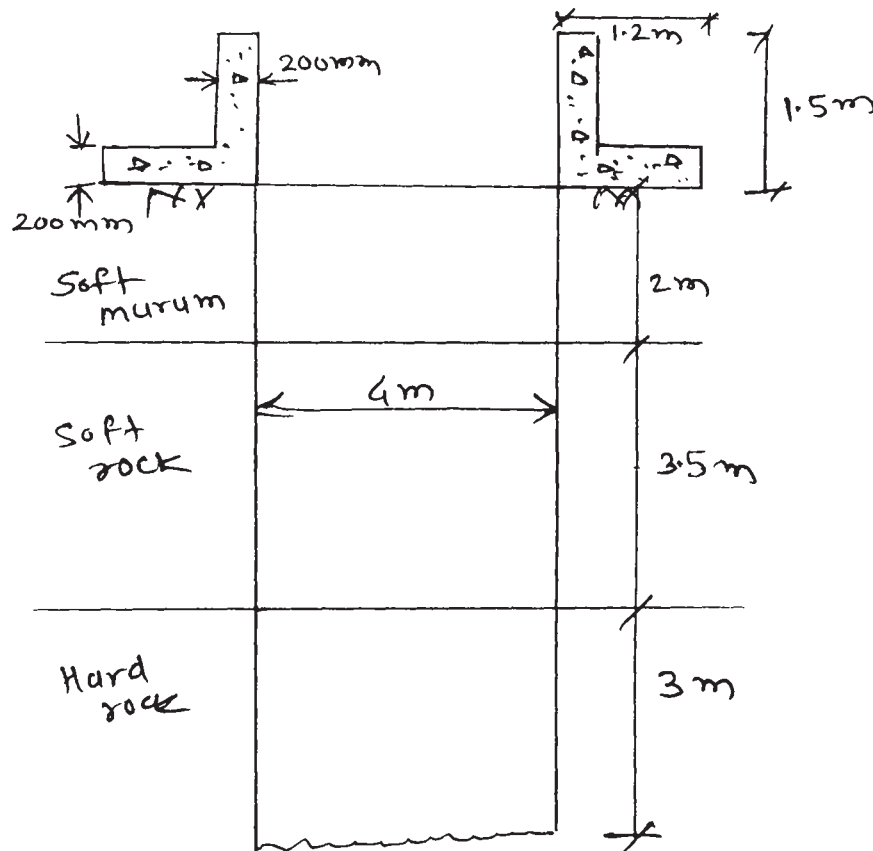

Fig. No. 2
- c) Find quantity of excavation and concrete for circular community well. Refer Figure No. 2